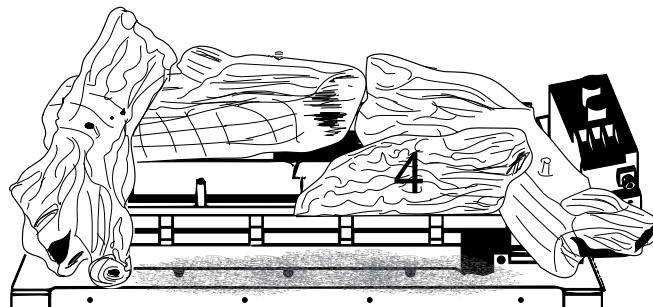

Figure 5.5 - Log #4 Placement
5. Hold log #4 with the pointed end toward the left. Place log #4 by positioning the pin locator hole on the bottom of the log over the right pin behind the grate and resting the right end of the log over the notch on log #1. See Figure 5.5.